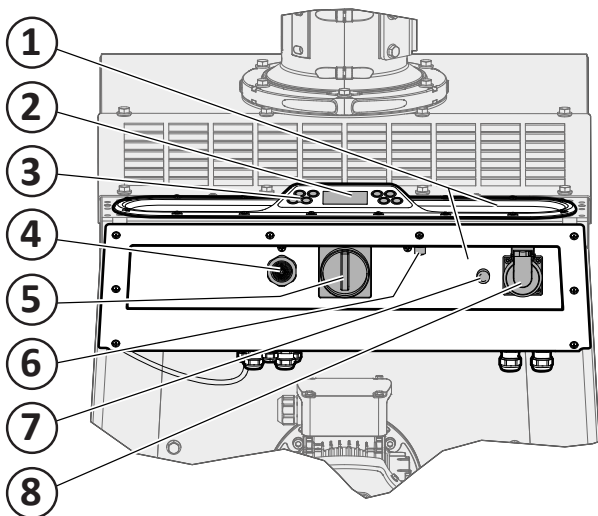
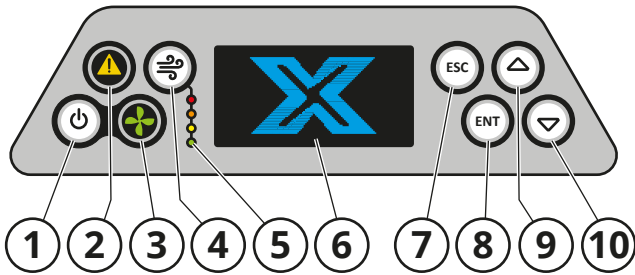

Fig. 16
Fig. 17
Se Fig. 16.
On the control panel (Fig. 16) there is a navigation panel, switch, pliers sensor connection and 230 VAC socket with a miniature circuit breaker. The control panel also functions as a handle when moving and usable surface area.
See Fig. 17.
When the machine is turned on with the switch (5, Fig. 16), the display (6, Fig. 17) lights up. When the display shows SETTINGS and MAINTENANCE, the navigation panel is ready for use. The fan is started/stopped with the Start/Stop fan button (1) and operation is indicated by the indicator light (3). If the airflow is too low, the light goes out and the audible alarm is triggered.
Auto plug start. Setting to start and stop the fan motor with a tool, e.g. an angle grinder, connected to 230 V socket (pos 8, **Fig. 16**). Selection is made with the navigation button.
With selection of **AUTO cleaning ON** in the settings menu, filter cleaning is automatic during operation. Automatic filter cleaning is performed between preset pressure drops. The Filter status indicator lights on the control panel (**Fig. 17**, pos 5) show the degree of contamination of the filter medium. Offline cleaning is also performed 20 minutes after the fan motor is switched off. When the filter cartridge is clogged and the airflow too low, the audible alarm and warning indicator (2) are triggered.